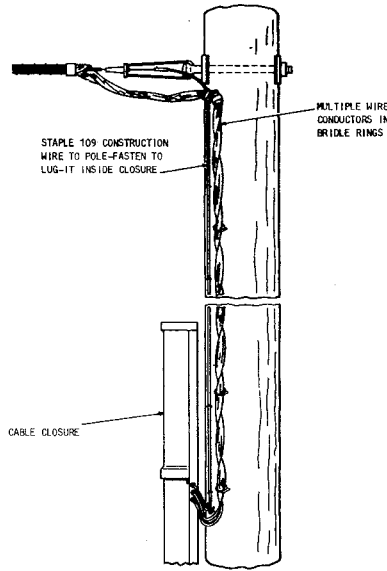

Fig. 31—Connecting Support Wire to Closure
5.05 When multiple wire is fed from a buried cable, connect the support wire to the closure or terminal. See Fig. 31. All wire terminals, protected and nonprotected, shall be bonded to the steel support wire with a 109 steel wire run between the wire bracket and the outside grounding post on the terminal.